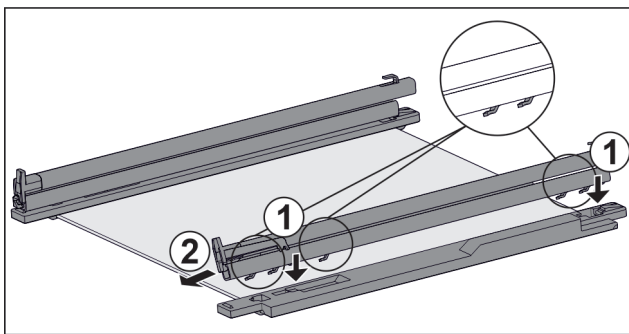

Fig. 115 Glass shelf with rails and retaining parts
- ▶ Place rail hooks onto the openings of the **left** retaining part. Fig. 115 (1)
- ▶ Push rail forwards. Fig. 115 (2)
- ▶ Place rail hooks onto the openings of the **right** retaining part. Fig. 115 (1)